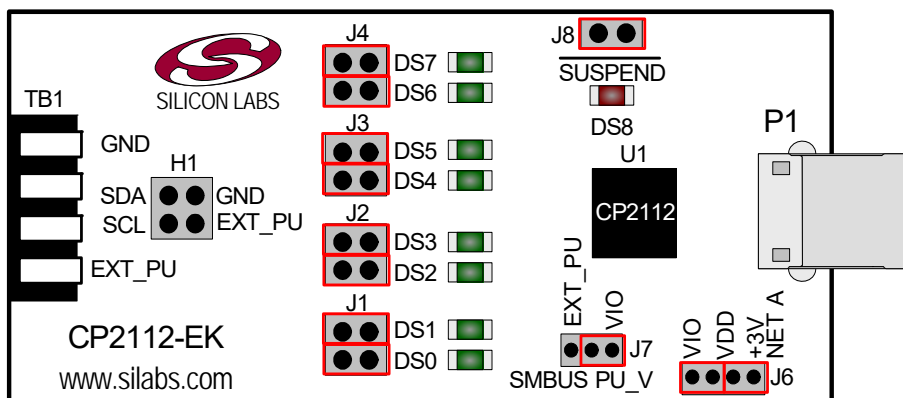
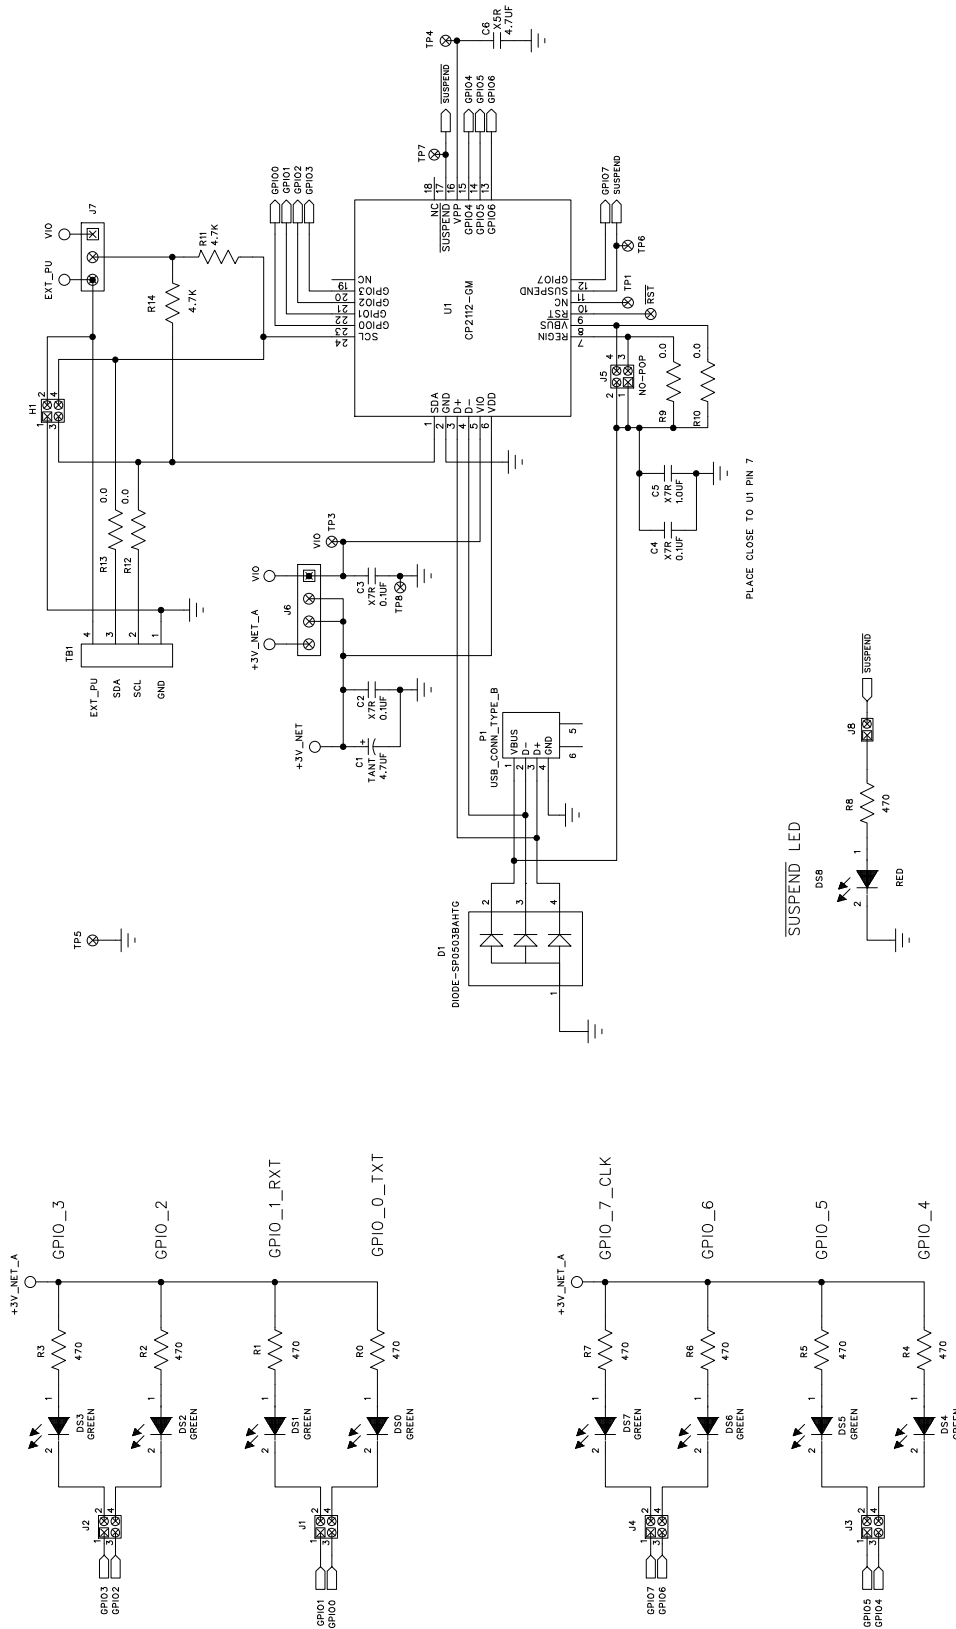

Figure 9. CP2112 Evaluation Board with Default Shorting Blocks Installed
Figure 10. CP2112 Evaluation Board Schematic
The CP2112 Evaluation Kit includes an evaluation board with a CP2112 device pre-installed for evaluation and preliminary software development. Numerous input/output (I/O) connections are provided to facilitate prototyping using the evaluation board. Refer to Figure 9 for the locations of the various I/O connectors. Refer to Figure 10, "CP2112 Evaluation Board Schematic" for information regarding the SMBus pull-up resistors that are located on the target board.
- Updated Figure 10 on page 12.